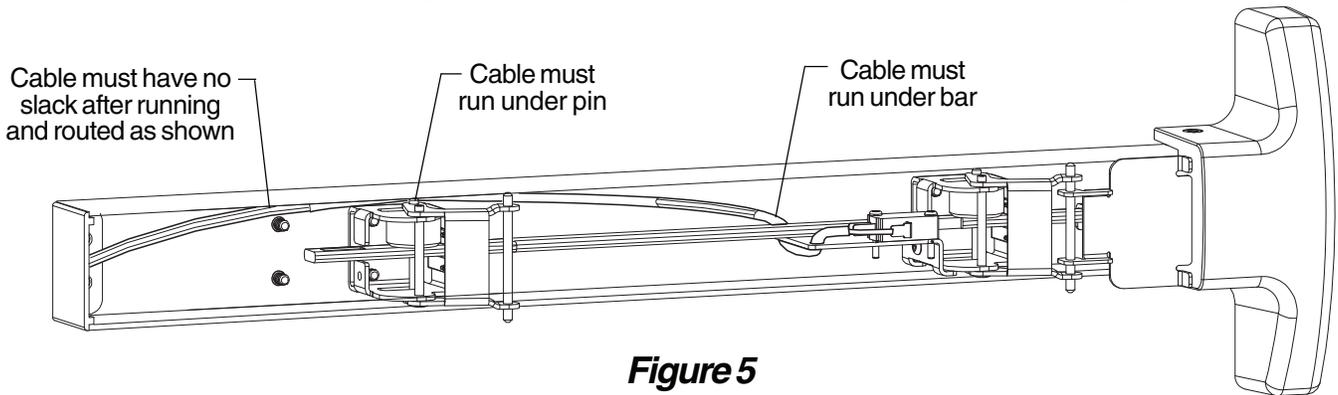

Figure 5
- 5** Route RX switch cable under bar and inside device channel as shown (Figure 5). If it is difficult to route wires along channel, it may be necessary to tape wire ends together.